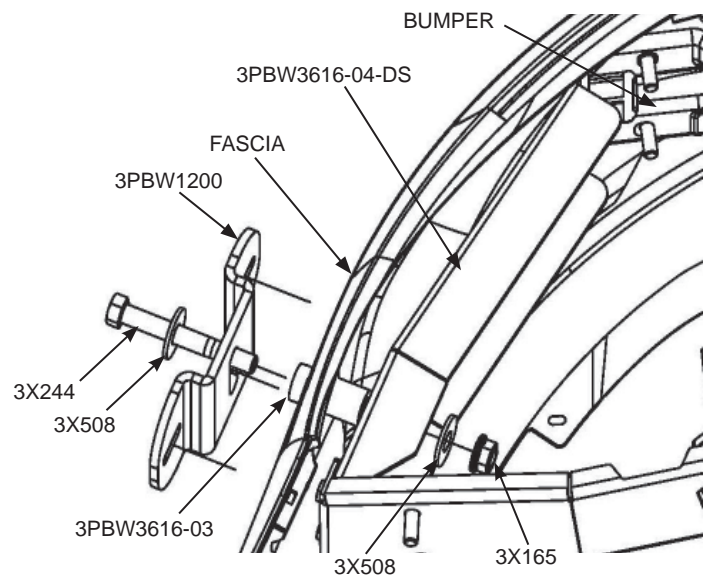

FIG. 3
B. Accessing the front bracket under and through the fender liner, assemble the 3PBW1200 hat channel bracket, 3X244 bolt, 3X508 washers and 3X165 nut as shown in figure 3.